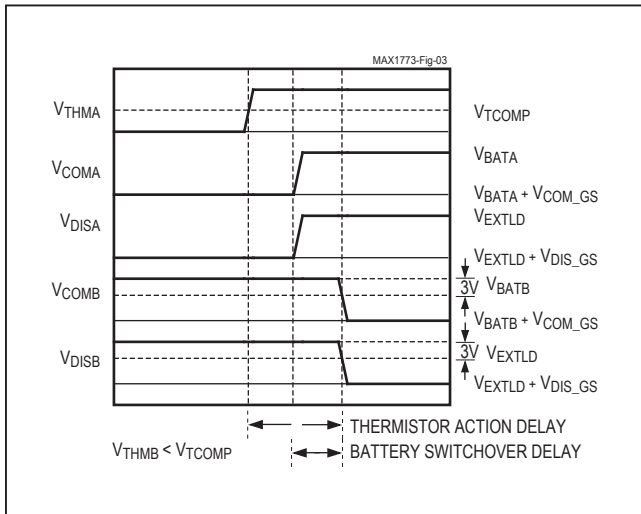

Figure 3. Thermistor Switchover Delay (Battery A to Battery B)
**Note 8:** Thermistor Action Delay begins when  $V_{THM\_}$  of the connected battery rises above  $V_{TCOMP}$  and ends when both  $V_{COM\_}$  and  $V_{DIS\_}$  of the other battery have fallen 3V below their sources (Figure 3 and 4).
Ideally, when a battery is removed from the system, the thermistor connection is broken before the battery’s power path is broken. In this case, tSWITCHOVER is typically bound by the Thermistor Action Delay (Figure 3 and 4). However, if the battery’s power path is broken first, then tSWITCHOVER primarily consists of the shorter of the following times: time until the thermistor connection is broken plus the Thermistor Action Delay, or the Battery Action Delay.